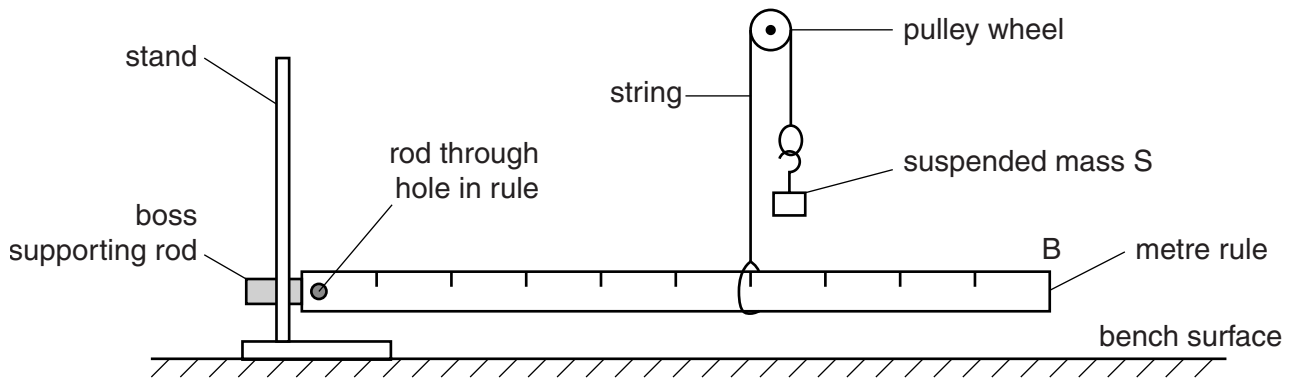

Fig. 1.1
5. The Supervisor should tie a fixed loop at each end of the string. One loop should be of sufficient size so that it can easily pass around the metre rule. The second loop will pass over the hook on the mass. The **candidates** will set up the apparatus as shown in Fig. 1.1.